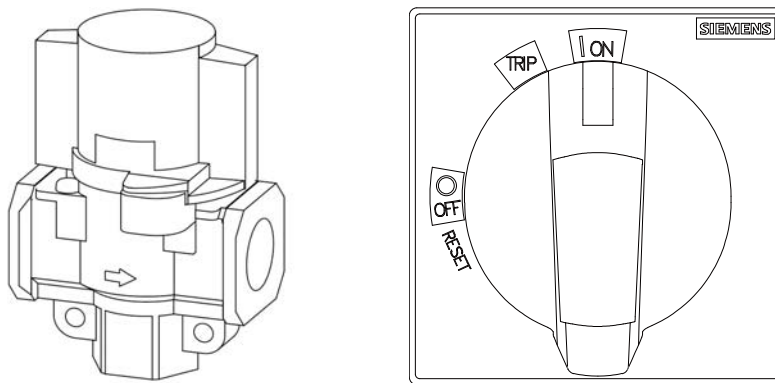

Figure 7-1 Manual ON-OFF valve and main power switch
Step 1: Turn on the manual ON-OFF valve, as shown in the left view of Figure 7-1;
Step 2: Turn on the main power switch, as shown in the right view of Figure 7-1;